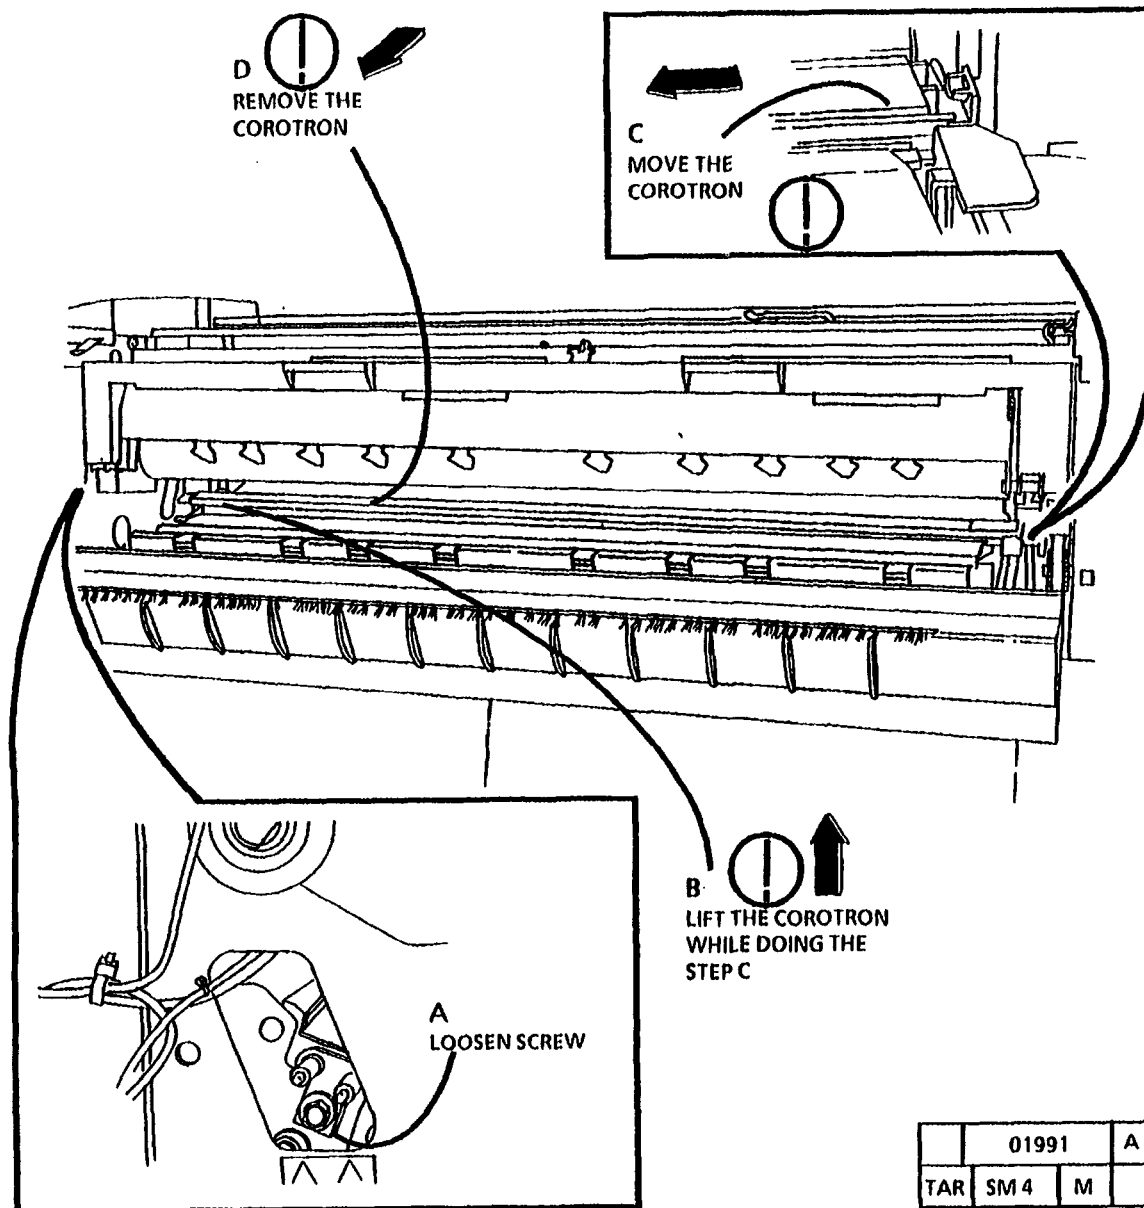

Figure 1. Remove the Transfer/ Detack Corotron
2. (Figure 1): Remove the Transfer/ Detack Corotron.